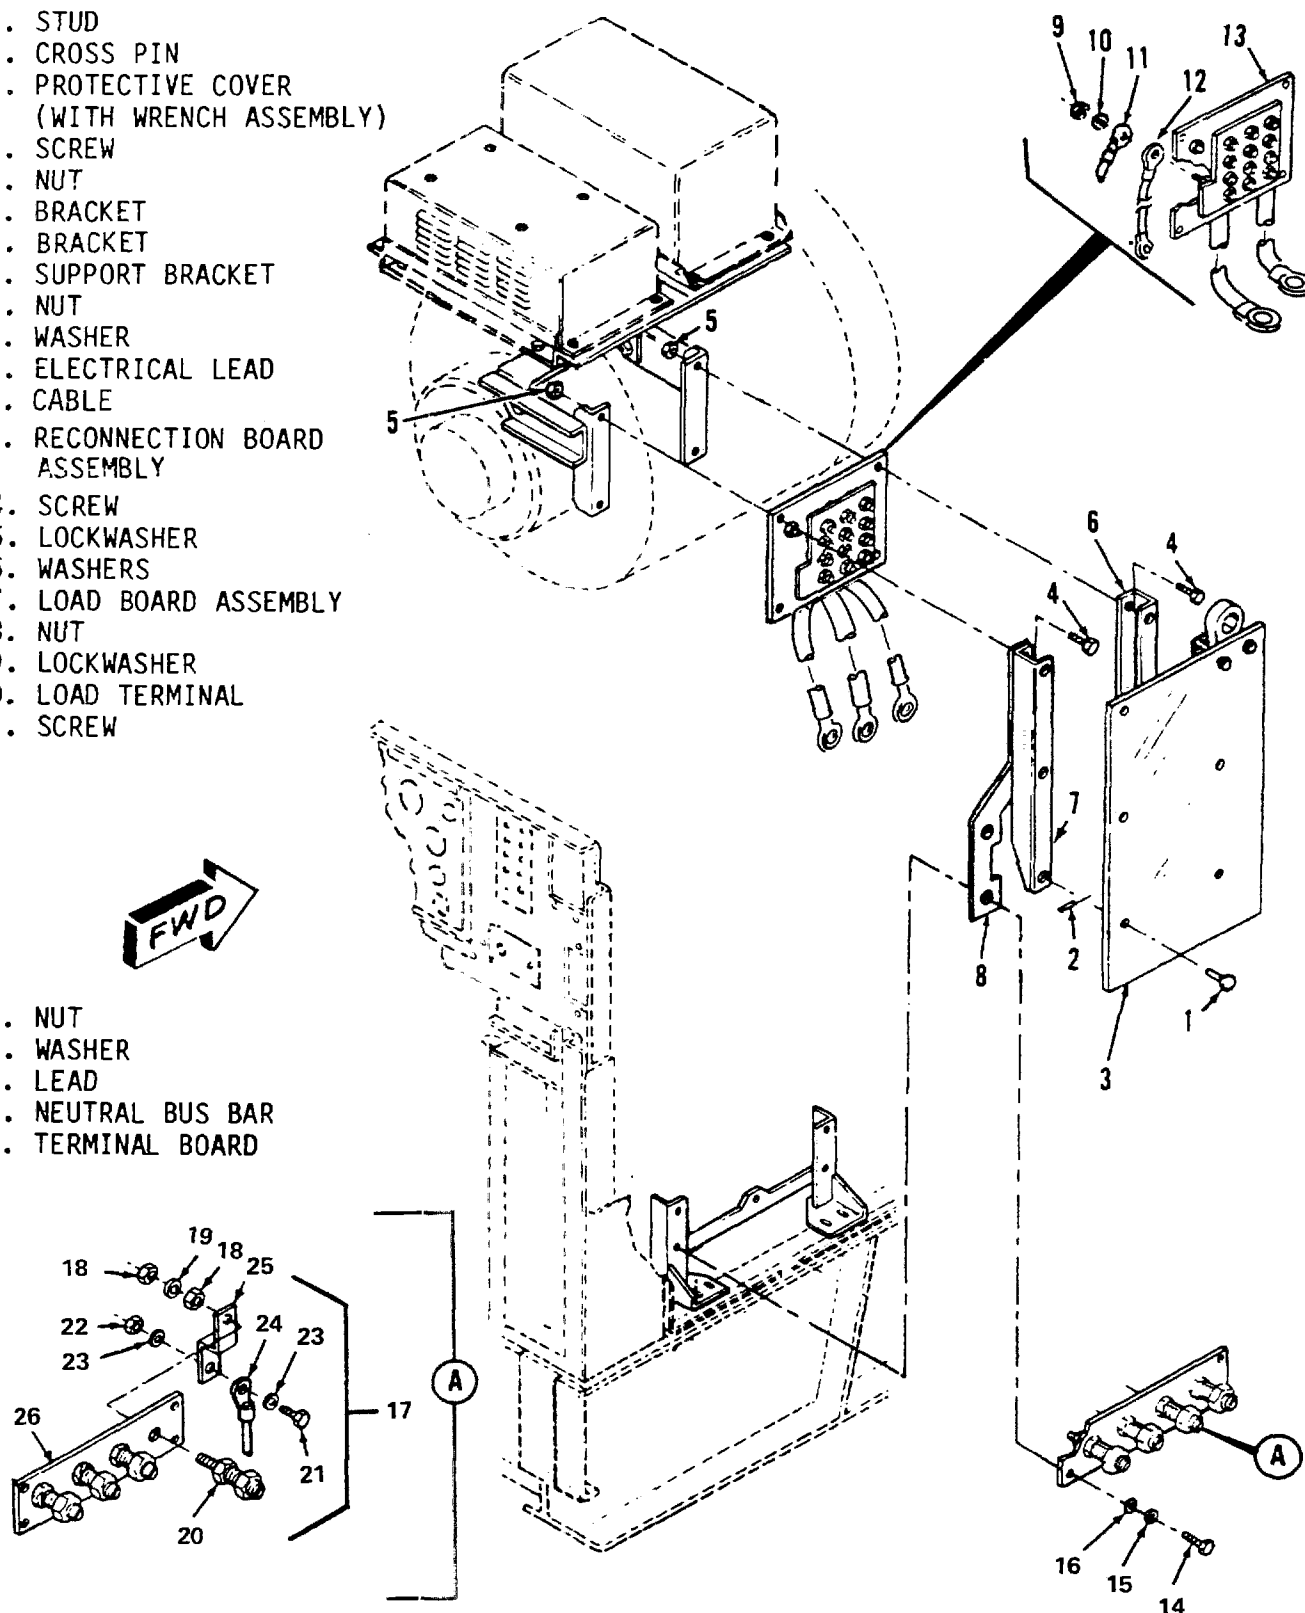

Figure 4-39. Reconnection Board Assembly and Load Board Assembly, Removal and Installation
b. Removal. Refer to figure 4-39 and remove the reconnection board as follows:
(1) Inspect threads for damage.
(2) Inspect terminal board and bus bars for cracks, warping, and burnt spots.
(3) Inspect for broken electrical leads caused by lockwashers cutting into the leads due to missing flat washers.
g. Reassembly. Refer to figure 4-39 and reassemble reconnection board assembly. Ensure studs are installed in proper numbering sequence.
h. Installation. Refer to figure 4-39 and install reconnection board assembly as follows:
(1) Connect electrical leads (11) and cables (12), washers (10), and nuts (9) to reconnection board assembly (13) studs.
(2) Position reconnection board assembly (13), support bracket (8), and brackets (7 and 6) into mounting position on generator, and secure with screws (4 and 14), nuts (5), lockwashers (15), and washers (16).
(3) Install protective cover (3) and secure by tightening studs. Do not overtighten.
b. Removal and Disassembly. Refer to figure 4-39 and remove and disassemble load board assembly as follows:
(1) Remove protective cover (3) by loosening studs (1).